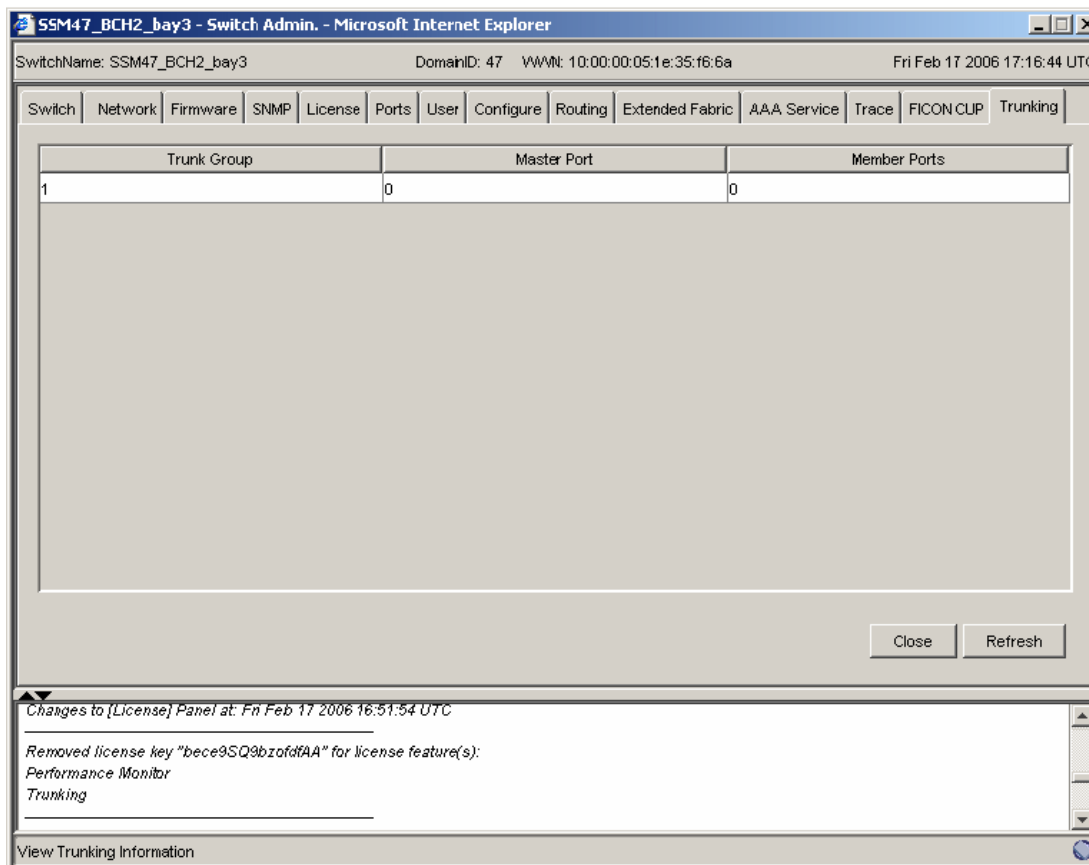

Figure 5-48 Viewing Trunk groups
3. Select the **Trunking** tab and verify that the trunk group has formed (see Figure 5-48).